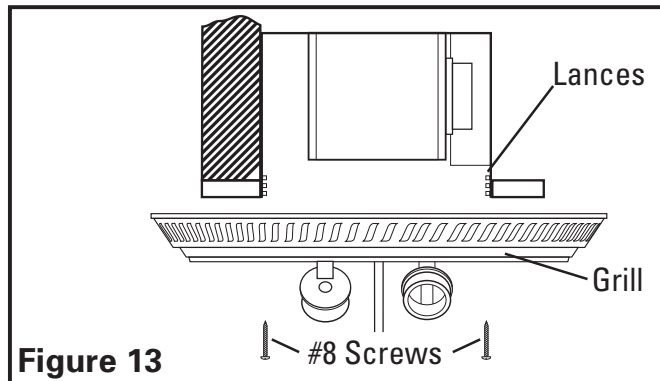

Figure 13
- Line up slots in the grill with lances on inside of housing. Insert included #8 screws through grill slots and into housing lances. Tighten both screws until the grill fits snugly to the ceiling. **DO NOT OVER TIGHTEN** (**Figure 13**).